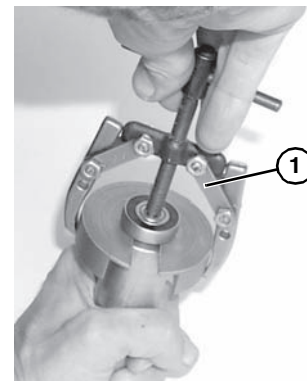

Figure 39
2. Using puller part #807-1716 (**Figure 39, item 1**), remove and discard bearing.